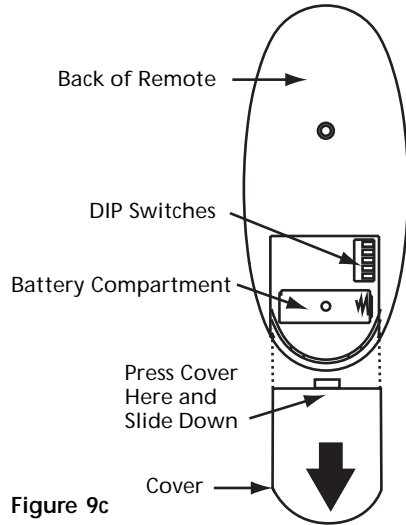

Figure 9c
1. Slide the cover off the back of the remote as shown in Figure 9c, pressing in and sliding the cover down to release. Set the DIP switches in the Remote to match the DIP switches in the receiver.
Install the included 12 volt alkaline battery (Type 23A, MN-21 or equivalent) inside the remote matching polarity on the Battery Compartment as indicated by the + and - symbols in the Battery Compartment. See Figure 9c.